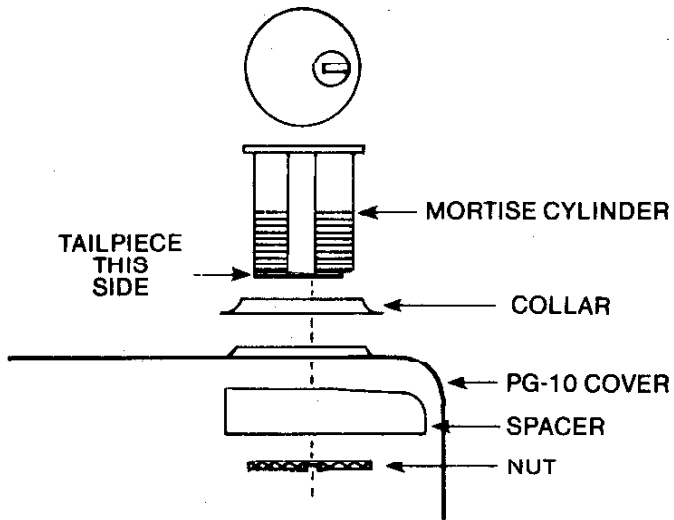

Figure 1
5. Install threaded (mortise) cylinder (1¼" long) in PG-10 cover using hardware supplied (see Figure 1).